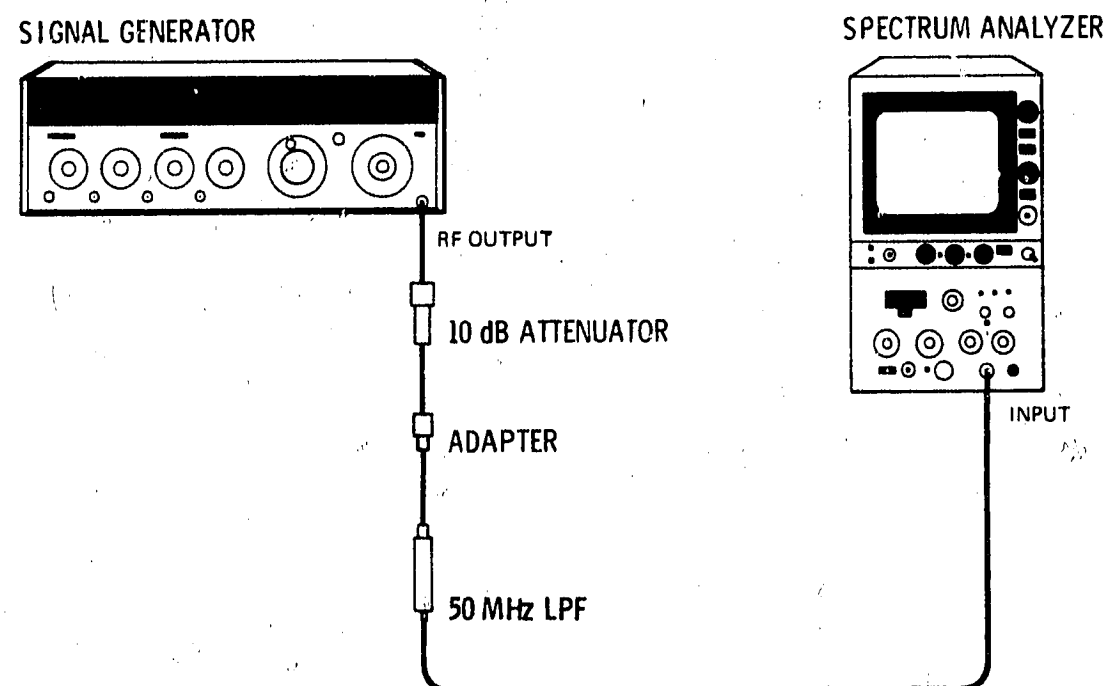

Figure 4-14. Harmonic Distortion Test Setup
2. Connect equipment as shown in Figure 4-14.